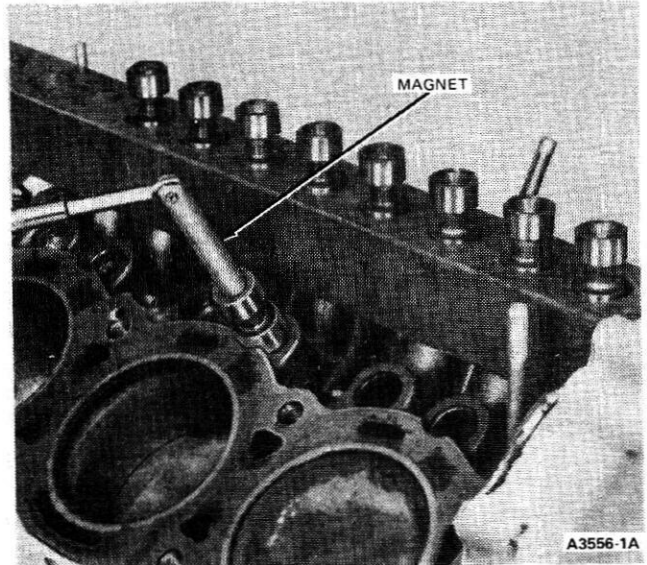

FIG. 14 Removing or Installing Tappets—Typical
2. Remove the tappets with a magnet. Place them in a rack in sequence. If the tappets are stuck in bores, use plier-type Tool (T70P-14151) to remove them (Fig. 14). Rotate tappets back and forth to loosen them from gum or varnish deposits.
1. Clean the tappets. Tappets and bores are to be lubricated with heavy oil SE before installation. Install the tappets in their original bores with a magnet (Fig. 14). Check any new tappet for proper fit in bore to which it is to be installed. See specifications.